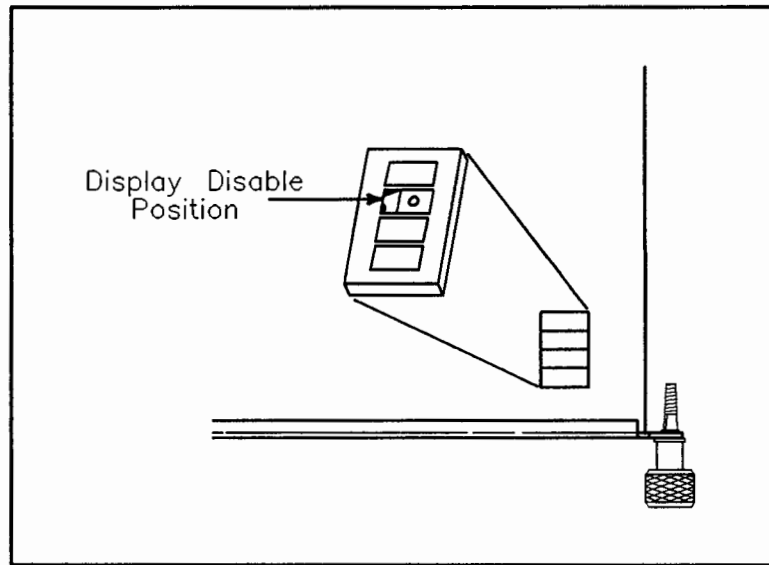

Figure 4-62. Display Disable Switch
- e. Locate the Display Disable switch on the processor board (see Figure 4-62).